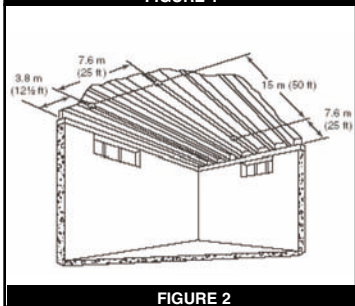

FIGURE 2
- In rooms with open joists or beams, all ceiling mounted alarms shall be located on the bottom of such beams (see Figure 2).
- Alarms installed on an open-joisted ceiling shall have their smooth ceiling spacing reduced to no more than half of the listed spacing when measured at right angles to the solid joist (See Figure 2).